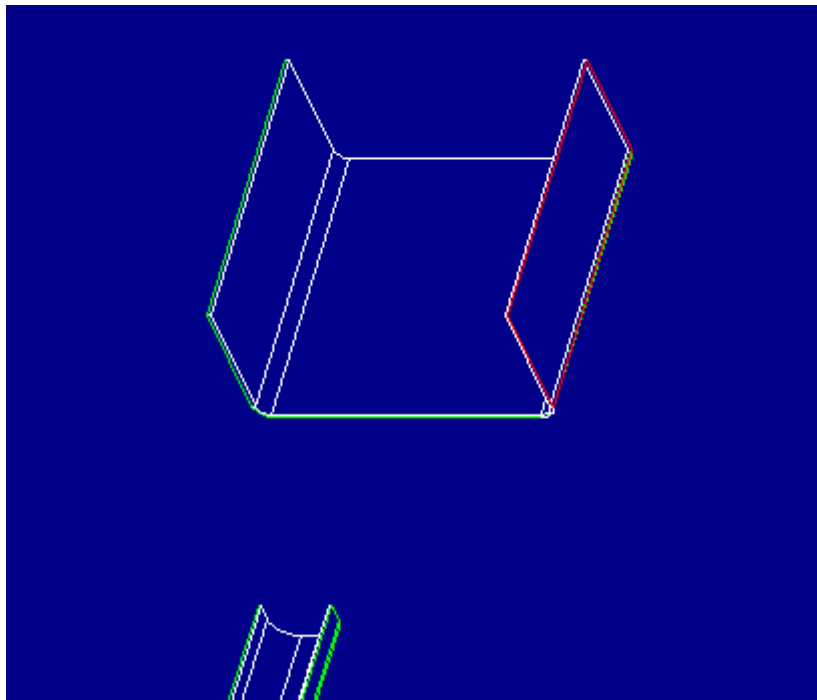

Figure 7
7. When defining the intermediate surface, the surface needs to tangent at both ends to the existing sheetmetal surfaces. From the dialogue box select **Boundary Cond** and **Define**. Select **Boundary #1, Tangent**, and **Done**. A menu will appear that will list each entity within the first boundary curve. For each entity, a tangent surface needs to be specified. Select the surfaces on the existing geometry that the surface being defined will be tangent to. Figure 7 shows the surface that would be selected for the first entity. Once all the surfaces have been selected, select **Okay** from the dialogue box labeled "Boundary #1".